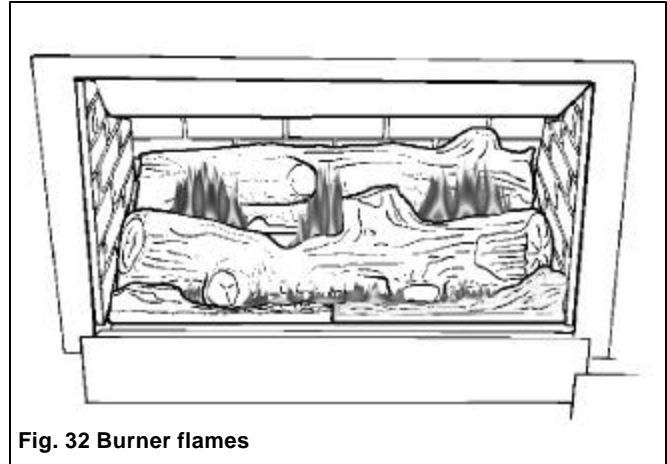

Fig. 32 Burner flames
- 23.1** A periodic visual check of the pilot and burner flames should be made (see figures 32 & 33).